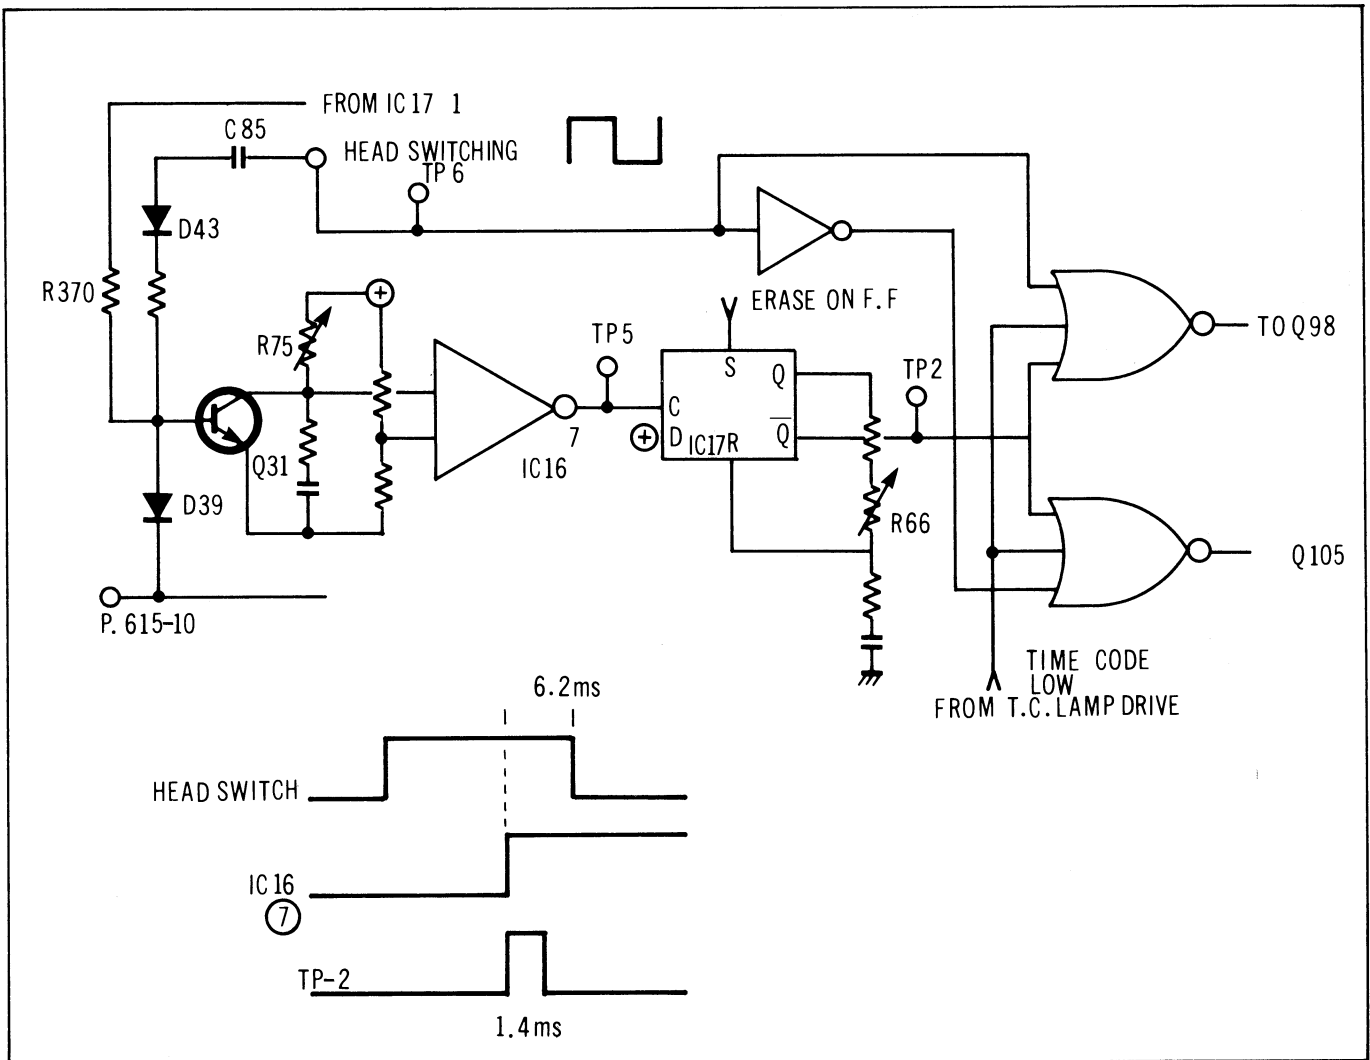

Figure 2-42
This makes the pulse. Since both phases of head switching must have erase jump, inverted head switching from IC26-(8) triggers IC17-(3) for another purpose (record overlap) but the Q output, which goes high, also triggers Q31 through R370, and the same process occurs. (See Fig. 2-42).